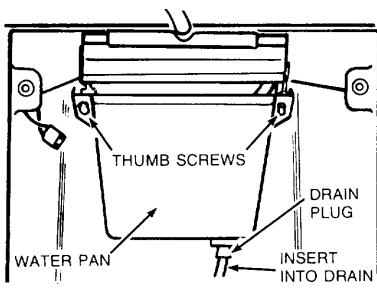

FIGURE 5
5. Drain the water pan by removing the drain plug (Figure 5) and then replace the plug.